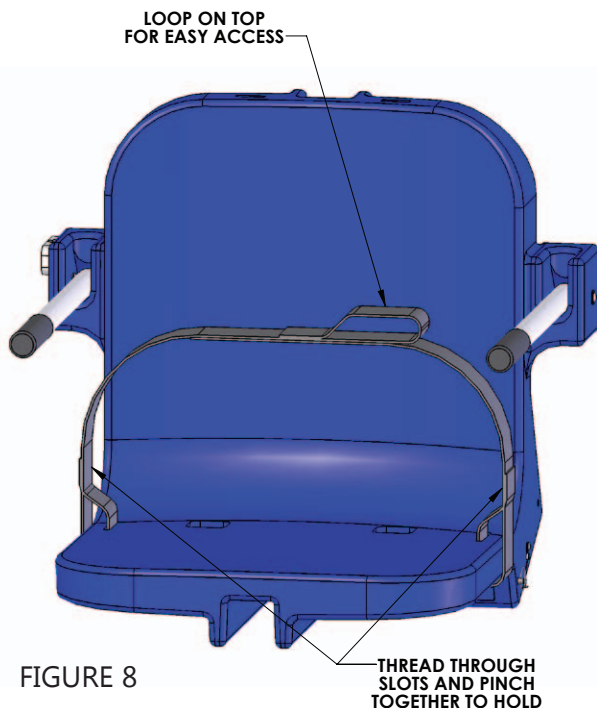

FIGURE 8
**7.** Attach the safety belt to the chair, as shown in FIGURE 8.